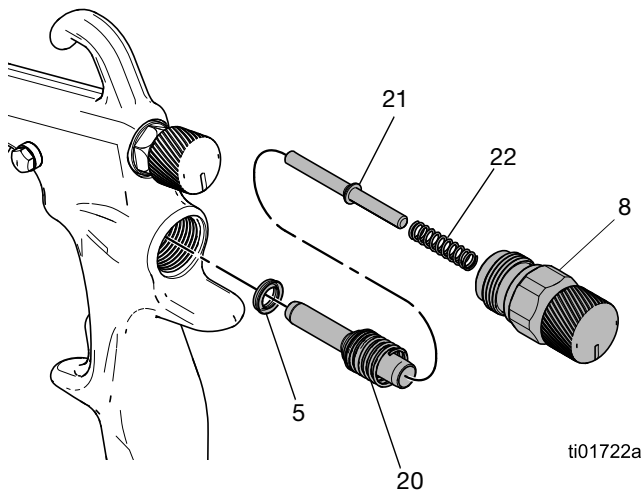

FIG. 28: Fluid Control Valve Assembly
1. Insert the packing u-cup (5), fluid adjustment valve (20), air valve stem (21), and spring (22) into the back of the gun.
2. Use a wrench or gun tool to tighten the fluid adjustment housing (8) into the gun body. Torque to 205–215 in-lb (23.2–24.3 N•m).
NOTE: Make sure the air valve stem (21) is oriented as shown in FIG. 28. The spring (22) should rest on the flat side of the air valve stem (21) when installed into the back of the gun.